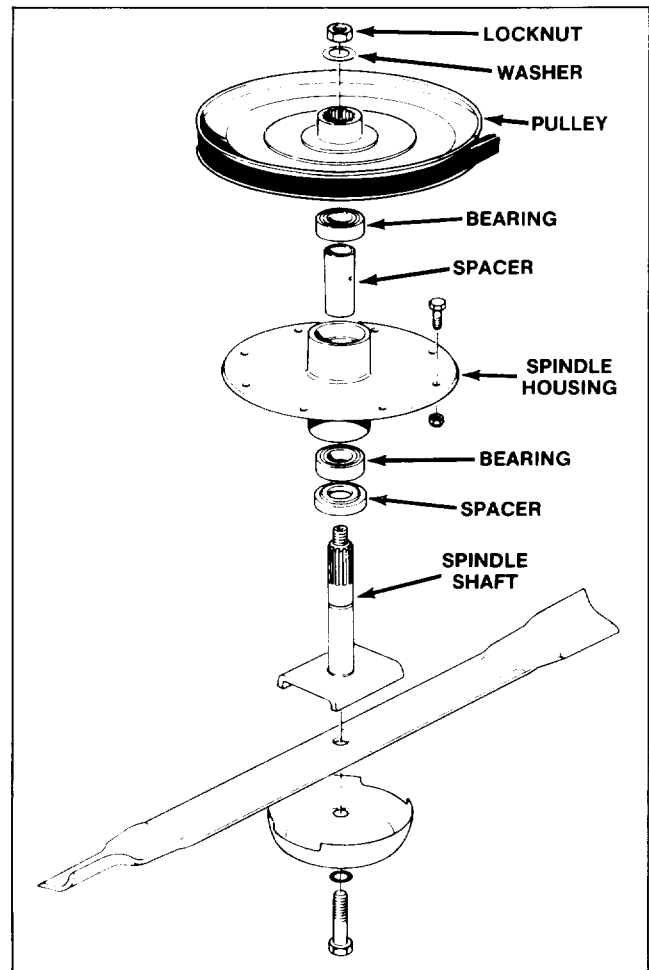

Figure 16
4. If spindle shaft will be replaced, remove blade-bolt, lockwasher, anti-scalp cup, and blade from spindle shaft (Fig. 16). Otherwise, the blade and its other associated parts may be left on the spindle shaft.
5. Press bearing (Fig. 16) out of one end of spindle housing, remove spacer, then remove bearing from other end of spindle housing.